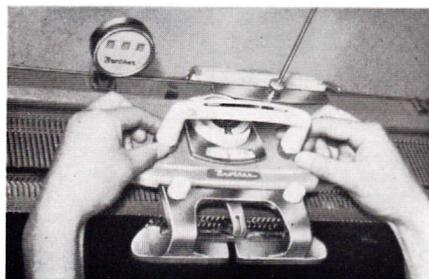

Fig. 16
- b. Take out the handle from the parts box and fasten to two threaded studs on carriage. (See Fig. 16)